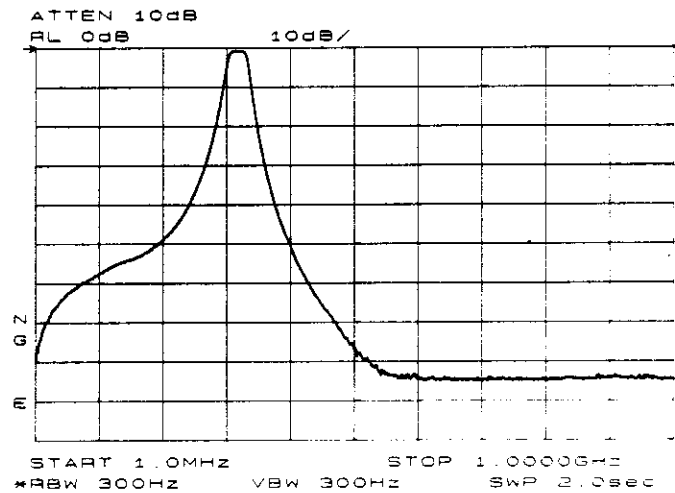

Figure 3-24. Normalized Trace
- Normalization eliminates the frequency response error in the test-setup. When normalization is on, trace math is being performed on the active trace ($A - B + \text{NRP} \rightarrow A$), where A is the active trace, B is the stored thru calibration trace, and NRP is the normalized reference position. Note that the units of the reference level, dB, reflect this relative measurement. See Figure 3-24.